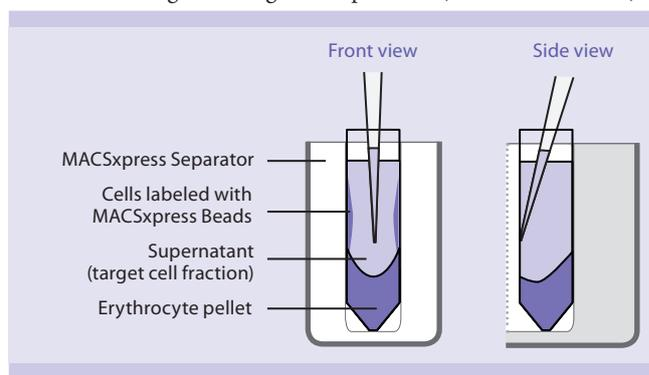

Figure 1: Front and side view of the MACSexpress Separator containing a separated blood sample in a 50 mL tube.
- While the tube is still inside the MACSexpress Separator, carefully collect the supernatant in a new 50 mL tube. For optimal recoveries, collect supernatant by moving the pipette tip top-to-bottom down the front wall of the tube (fig. 1). The supernatant contains the target cell fraction.